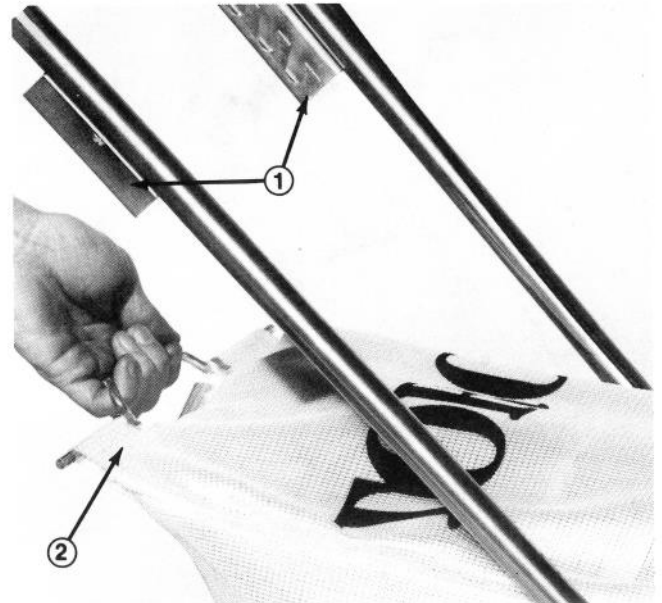

Figure 21
7. ⚠ When bag must be emptied, stop the engine and wait for all parts to stop moving. Move mulcher door handle forward until pin locks in the latch. Then, lift rear bag off rear brackets (Fig. 21), grasp front bag handle and lift straight up to remove bag from mower and keep clippings from falling out of bag (Fig. 22).